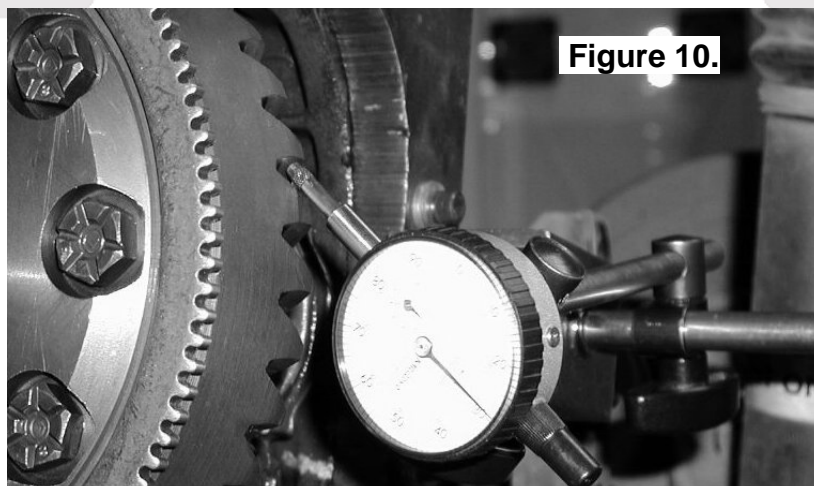

Figure 10.
- Set a depth indicator on one of the ring gear teeth as in Figure 10.